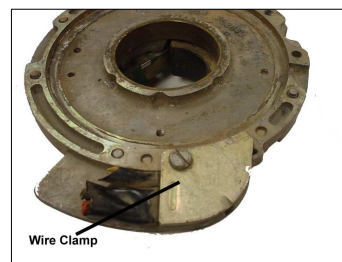

Fig. 2
6. Remove the wire clamp bracket on the bottom of the stator plate. (Fig. 2)